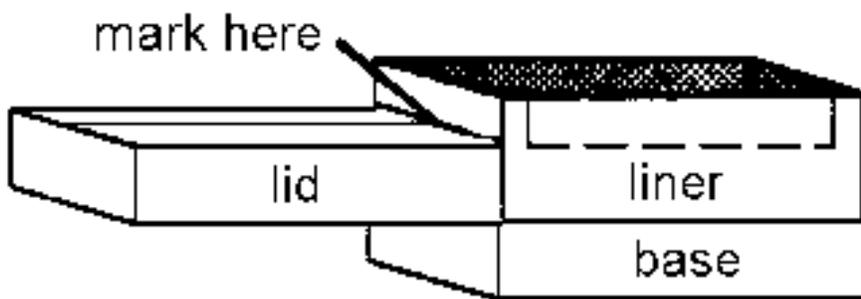

Figure 3
3. Use the lid piece as shown in Figure 3 to mark a line around the liner.